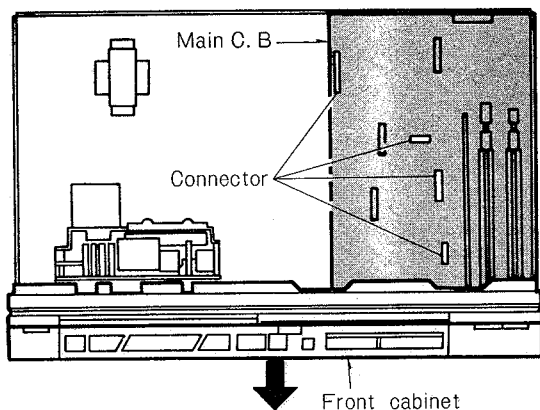

Fig. 1-2
- 3) Disconnect the 4 connectors of Main P.C.B. (See Figure 1-2)